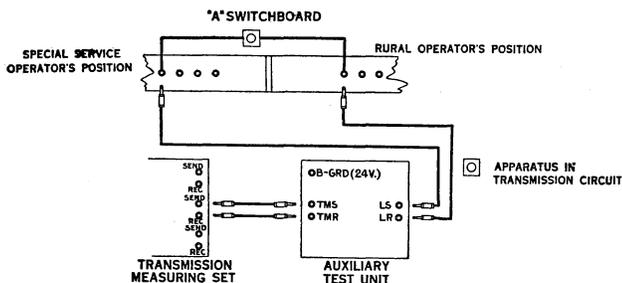

Figure 3
- 4.02 Figure 3 shows schematically the connections for the test.